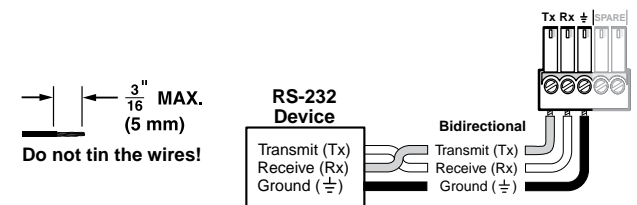

Figure 2-5 — RS-232 insert wiring
- ④ **Pre-Peak switch** — The Pre-Peak switch alters the TP signal output to correct for long cable runs. See the table on page 1-5 for suggested switch settings based on the transmitted video format and transmission distance.
- ⑤ **RS-232 Insert connector** — For bidirectional RS-232 data that is routed from a common source to the TP output regardless of the selected input, connect a serial device to this 3.5 mm, 5-pole captive screw connector. Figure 2-5 shows how to wire the connector.